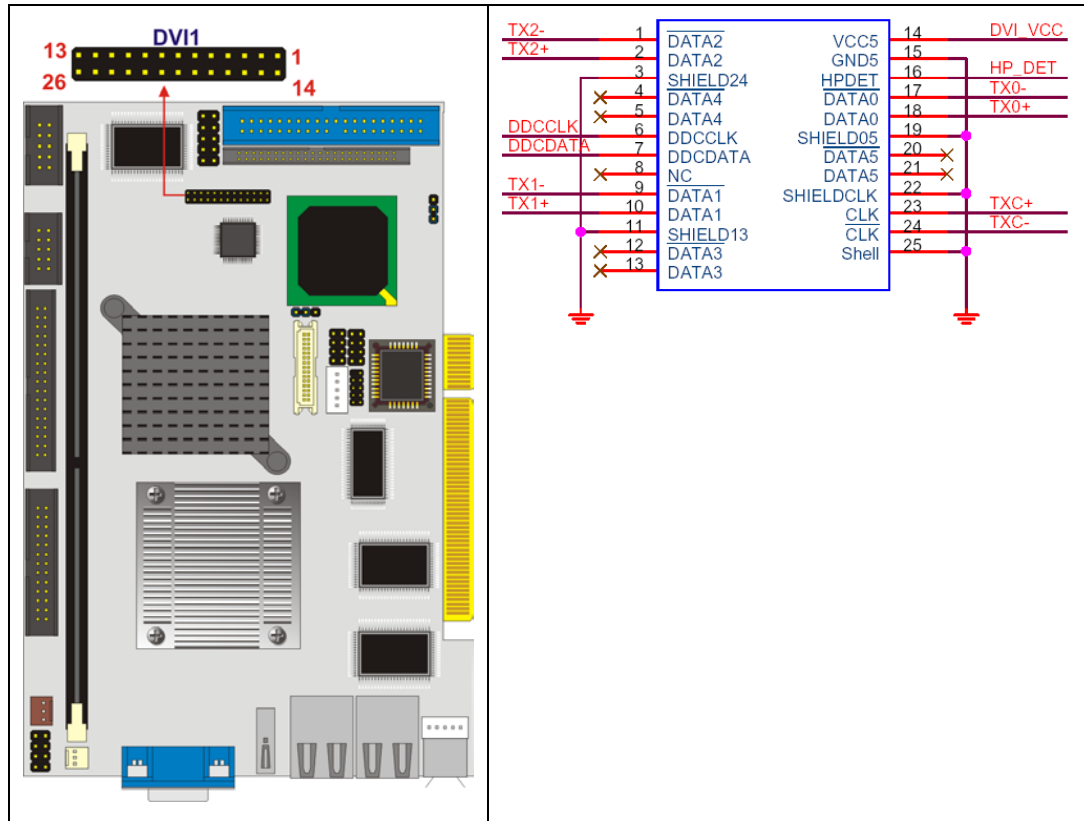

Figure 3-7: DVI Connector Location
- CN Location:** See Figure 3-7